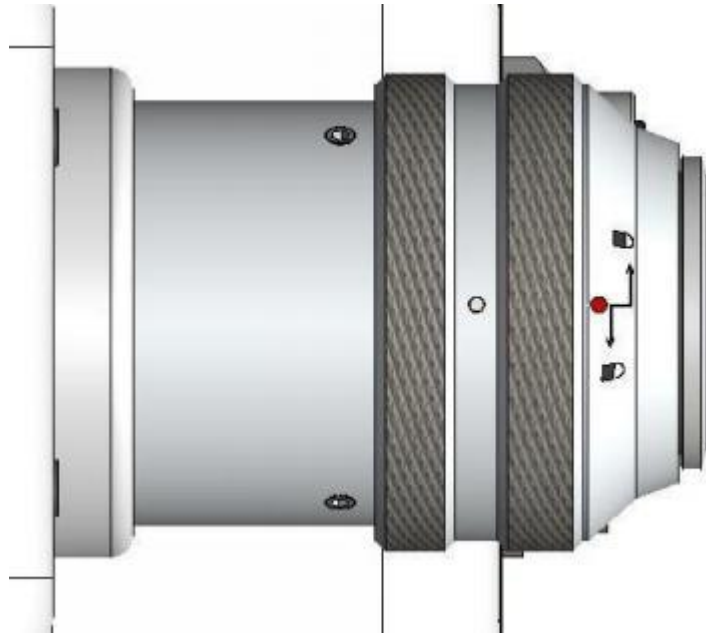

Figure 2.4
- ③ Turn the QBH connector into the open state, that is, turn it to the limit position counterclockwise (a "thud" sound can be heard). Do not twist with great force, otherwise the internal structure of the QBH may be damaged, as shown in Figure 2.4: